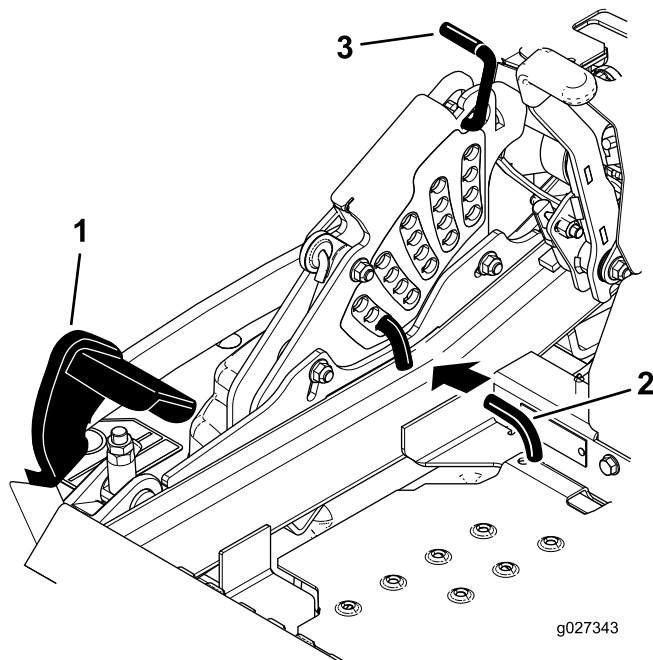

Figure 26
2. Push on the deck-lift pedal with your foot and raise the mower deck to the transport position (also the 140 mm (5-1/2 inch) cutting-height position); refer to Figure 26.
3. To adjust, rotate the pin 90 degrees and remove the pin from the height-of-cut bracket (Figure 26).
4. Select a hole in the height-of-cut bracket corresponding to the height of cut desired, and insert the pin (Figure 26).